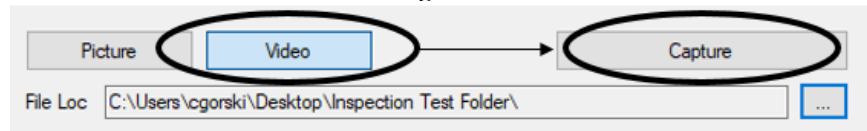

Figure 9
1. Select the 'Video' Button on the Software. **Fig. 9**
- A. Click the 'Capture' button on the Healthmark Viewer Software. **Fig. 9**